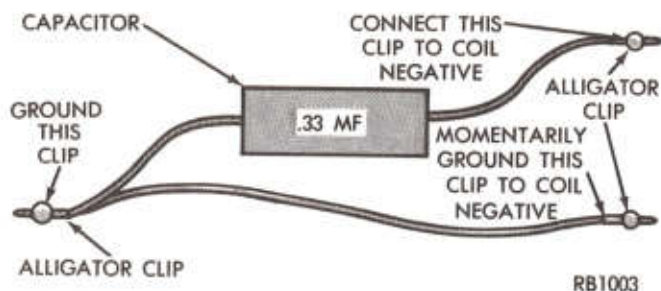

Fig. 3—Special Jumper to Ground Coil Negative
- (5) Remove the lead to coil (+) and connect a jumper wire between battery (+) and coil (+).
(6) Using the special jumper (Fig. 3), momentarily ground terminal #12 of the 14-way connector. A spark should be generated when the ground is removed.
(7) If spark is generated, replace the SMEC.
(8) If no spark is seen, use the special jumper to ground the coil (-) terminal directly.
(9) If spark is produced, repair wiring harness for an open condition.
(10) If no spark is produced, replace the ignition coil.